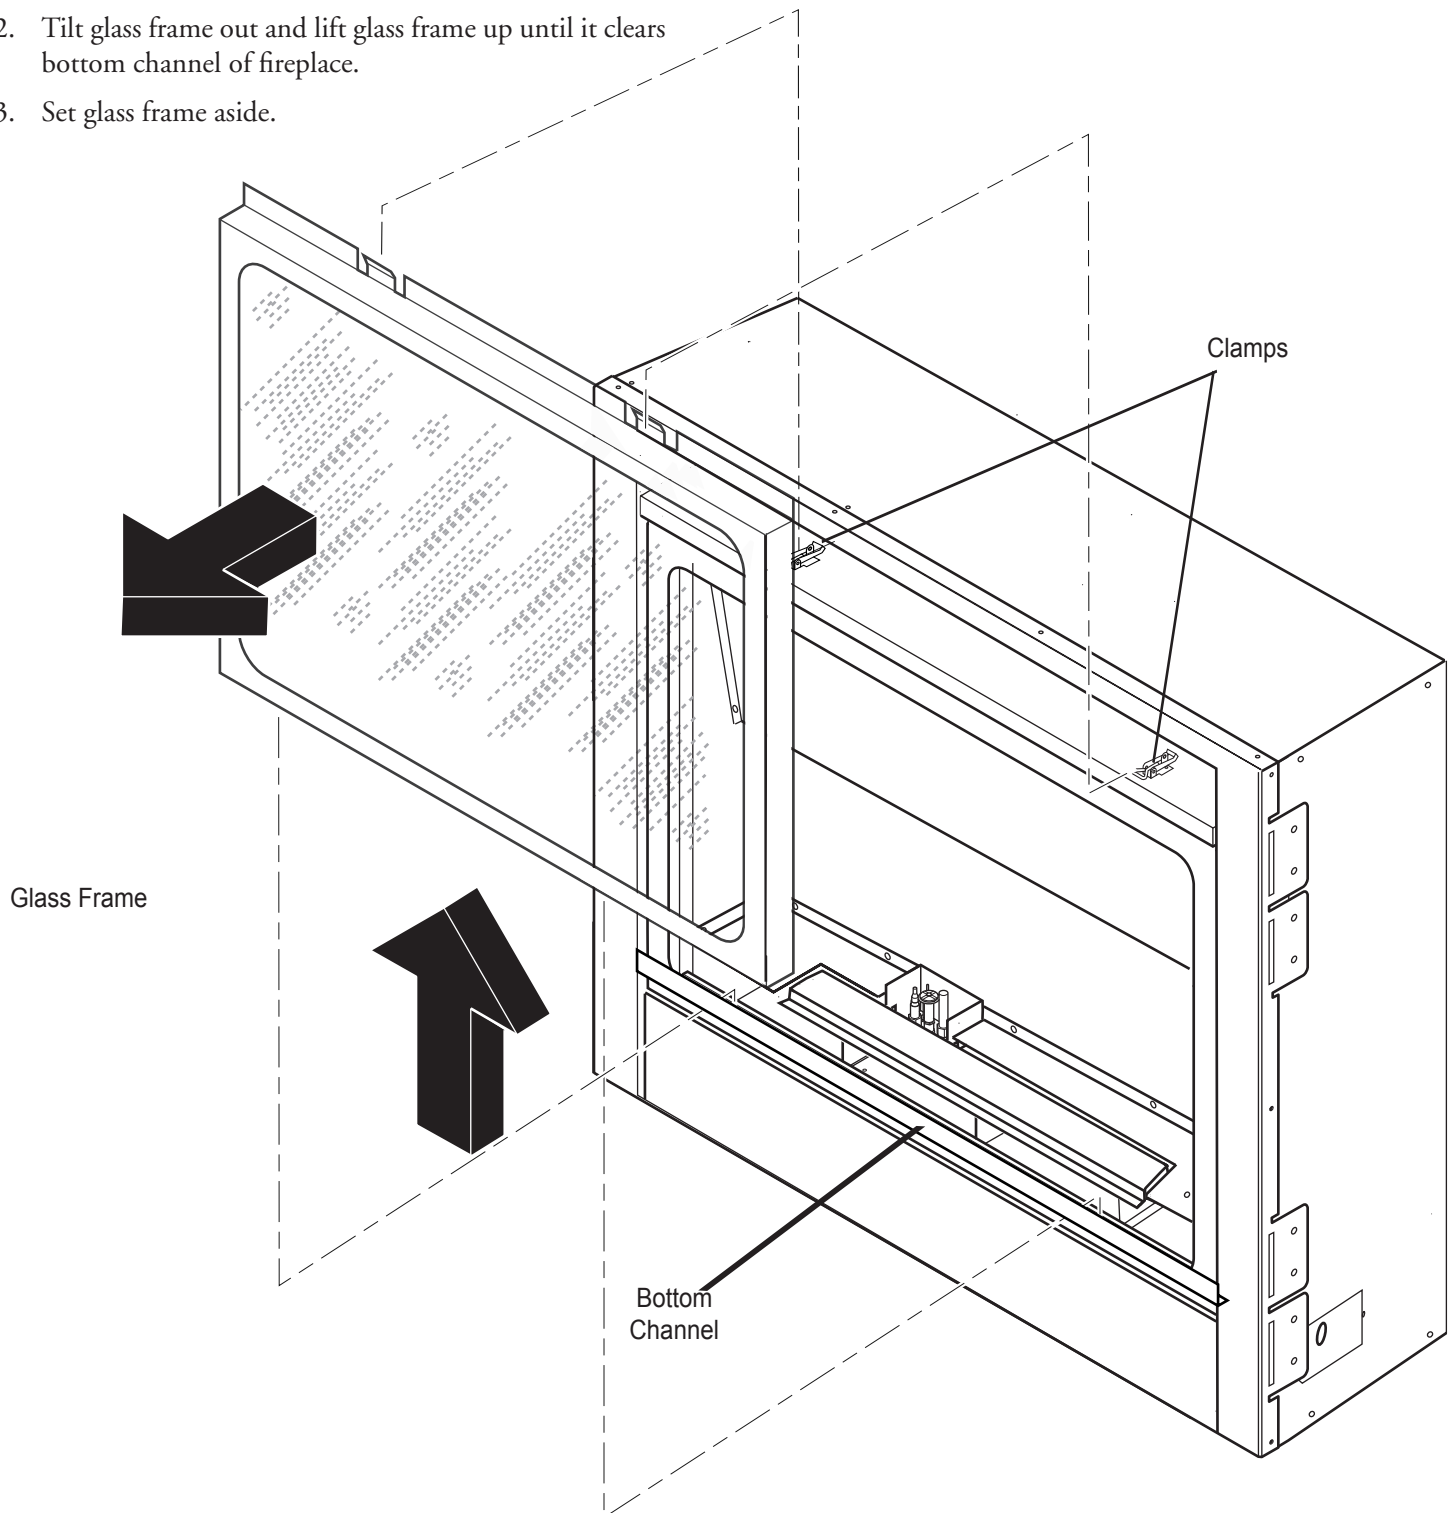

Figure 36 - Removing Glass Frame
1. Release two clamps on top of fireplace. See *Figure 36*.